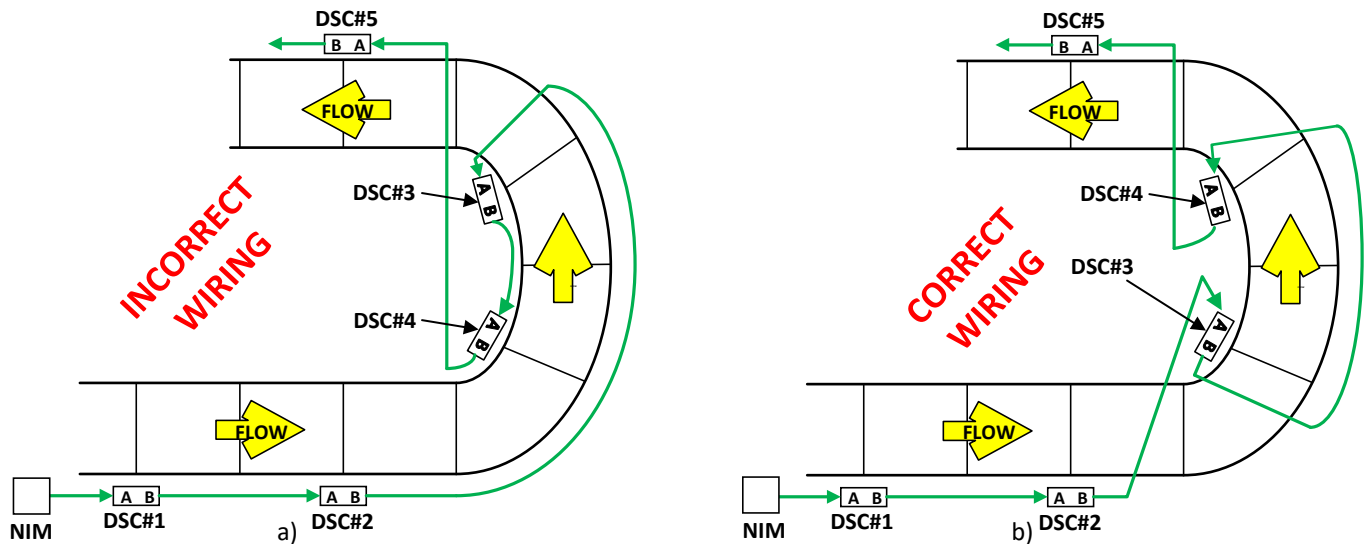

Figure 7: a) Shows a wrong way to daisy chain the zone controllers; b) Shows the right way to daisy chain the zone controllers.
6. For those cases where zone controllers are installed in the inside radius of the conveyor system, the field bus cable should connect the zone controllers on sequence. See Figure 7.